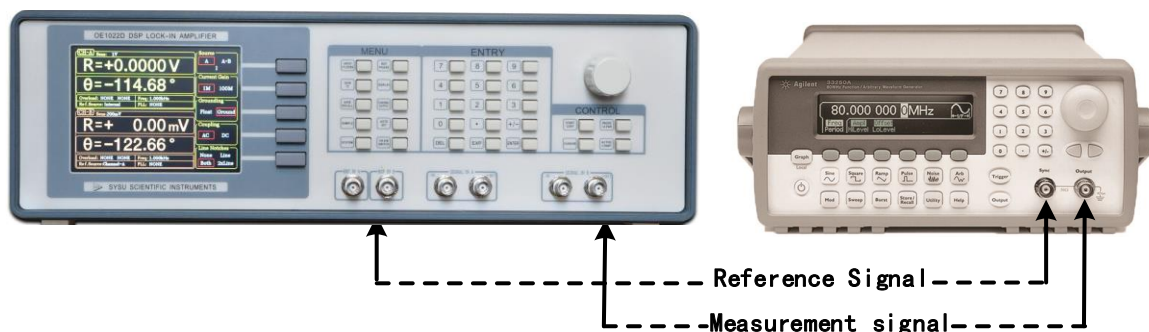

Fig.92 Signal Cable Connect Diagram
2. Use a BNC cable to connect the output of the function signal generator and the A/I input of the OE1022D. Use another BNC cable to connect the reference signal of the function signal generator and the REF IN of the OE1022D, as shown in Fig.92.